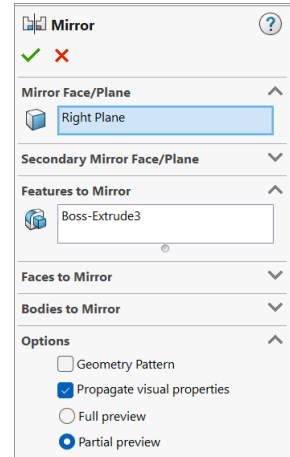

Fig. 65
- Step 3. In the Mirror Property Manager click OK , Fig. 65.